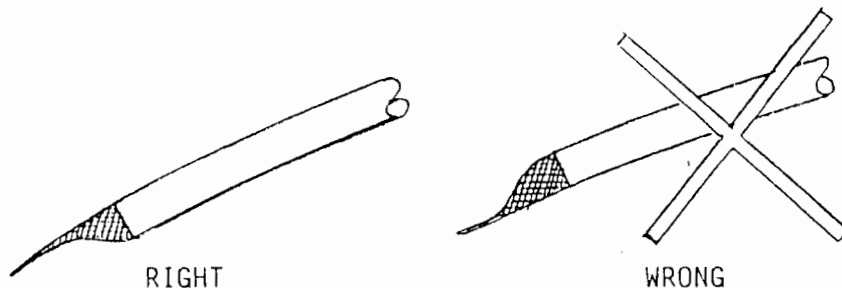

FIGURE 025-05
5. Assemble the top and bottom ribs by inserting the tips as shown in Figure 025-05 on the top ribs. Insert the contour fittings to point away from the curve of the rib. Insert tips into both ends of bottom ribs. Dimple the tube with a prick punch to lock the contour and tip fittings in place. Reshape the top ribs contour fitting as shown in Figure 025-05A. This will greatly ease the rib insertion and removal process.